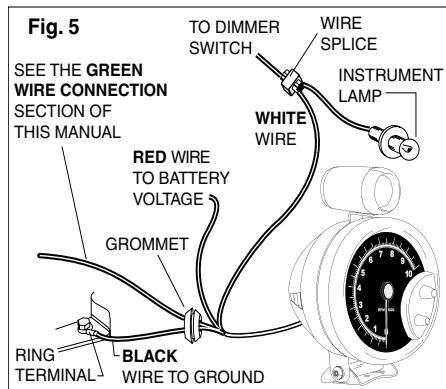

Fig. 5
1. Connect the **BLACK** wire to the negative (-) battery terminal, or a clean unpainted chassis ground using a ring terminal or other suitable means (see figure 5.)
2. Connect the **RED** wire to any vehicle harness wire which is energized with battery voltage, **ONLY** when the ignition key is in the **ON (RUN)** position, **NOT OFF OR ACCESSORIES** (see figure 5.)
3. Connect the **WHITE** wire to the instrument panel lighting circuit that is controlled by the instrument panel dimmer control (see figure 5.)